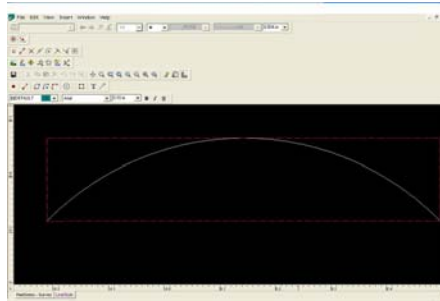

Figure 16-23. Line Styles Screen
2. On the *Line Styles Library* dialog box, click **New**. The *Line Styles* dialog box appears (Figure 16-23).